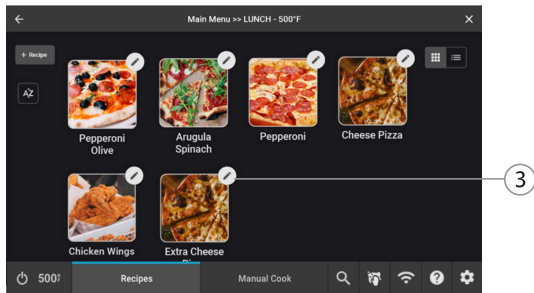

Figure 35: Select Recipe to Edit
3. Touch the Edit Pencil button for the group you want to edit (Figure 35, above).